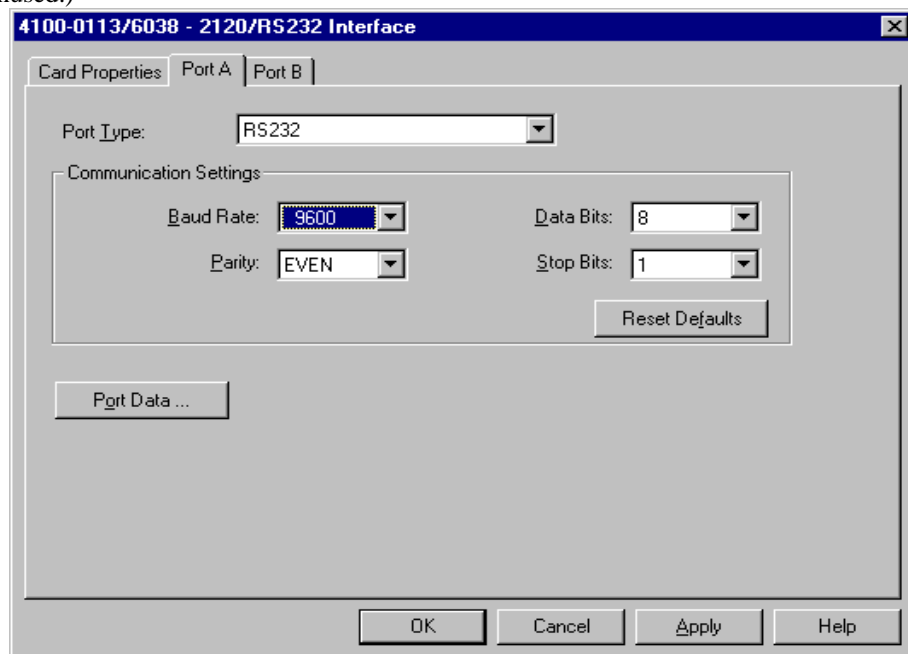

Figure 19. Communication Settings
7. Click on the Port A tab, and then configure Port A as shown in Figure 19 (9600 Baud, Even Parity, 8 Data Bits, and 1 Stop Bit). (Since Port B is not supported, you need to leave it unused.)